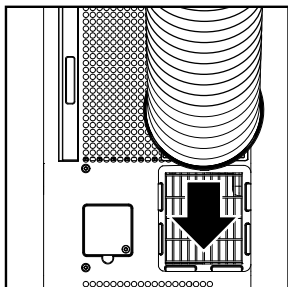

Fig. 3
- 2/ Slide the other exhausted connector (#12) to the air outlet (#7) on the rear of the unit (Fig 3)